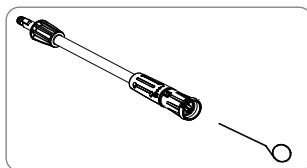

Fig. 19
2. Cleaning the nozzle (fig. 19)